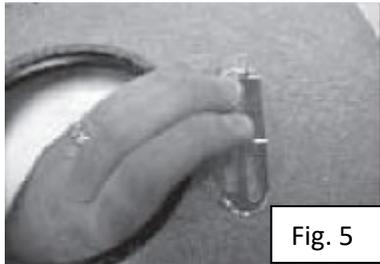

Fig. 5
- Secure flange by gently pressing down on the spring clips until there is a clicking sound. [Fig. 5]